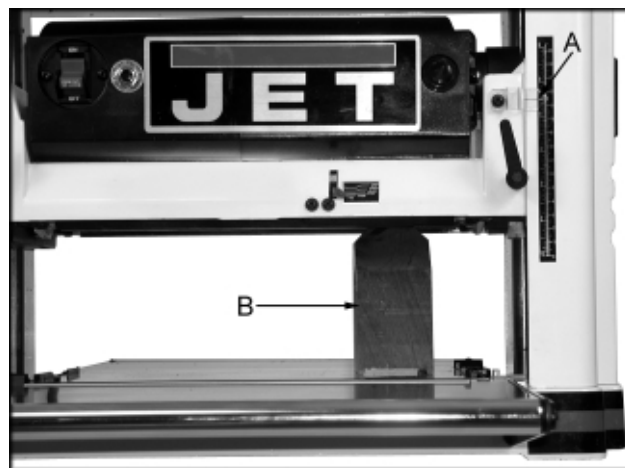

Fig. 11
4. Measure the thickness of the planed board. If the scale pointer (A, Fig. 11) does not match the thickness of the board, adjust the pointer with a screwdriver.
2. Cut a hardwood block (B, Fig. 11) approximately 1" thick x 5" high x 4" wide. On one end, cut 45° bevels on all four sides.
5. Place the gauge on the right side of the table, as shown in Figure 11.